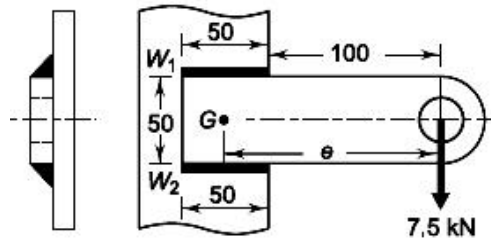

Fig.3
b) A welded connection, as shown in Fig.3 is subjected to an eccentric force of 7.5 kN. Determine the size of the welds if the permissible shear stress for the weld is  $100 \text{ N/mm}^2$ . Assume static conditions.